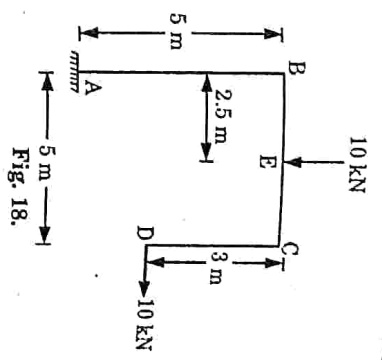

Fig. 18.
b. Determine the horizontal deflection at a free end of the frame as shown in Fig. 18, by using unit load method.